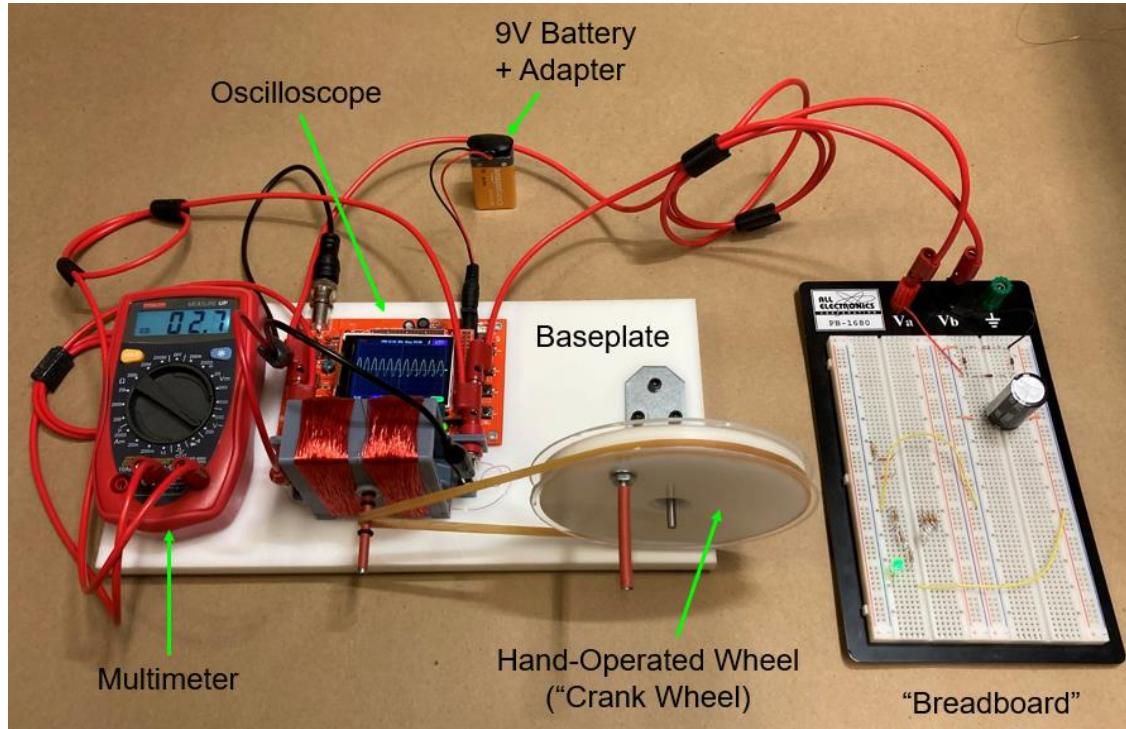

Figure 1. Full system assembly.
1. The main portion of the module includes a plexiglass baseplate, a hand-operated wheel assembly, a 3D-printed magnet container, a magnet-bearing steel shaft, a voltmeter, an oscilloscope, and an electrical circuit board known as a "breadboard". The system overview is demonstrated below in Figure 1.